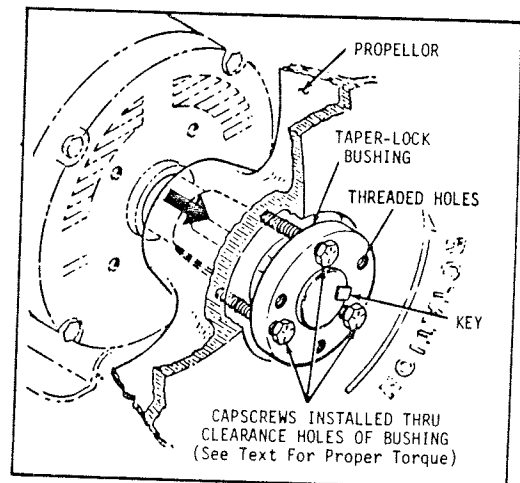

FIG. 11 - CAPSCREW ARRANGEMENT FOR REASSEMBLY
CLEARANCE HOLES - When reassembling parts, the capscrews must be installed through the UNTAPPED CLEARANCE HOLES, as shown in Figure 11, to cause the propellor to be pulled forward onto the tapered bushing, thus locking the parts securely onto the motor shaft. Refer to text for assembly details.
6. Use an INCH-POUNDS wrench and GRADUALLY TIGHTEN the capscrews (up to 1/4 turn at a time) until the taper bushing becomes fully seated. Refer to the following chart for recommended bolt tightening torques. DO NOT EXCESSIVELY OVERTIGHTEN THE BUSHING. See Figure 11.